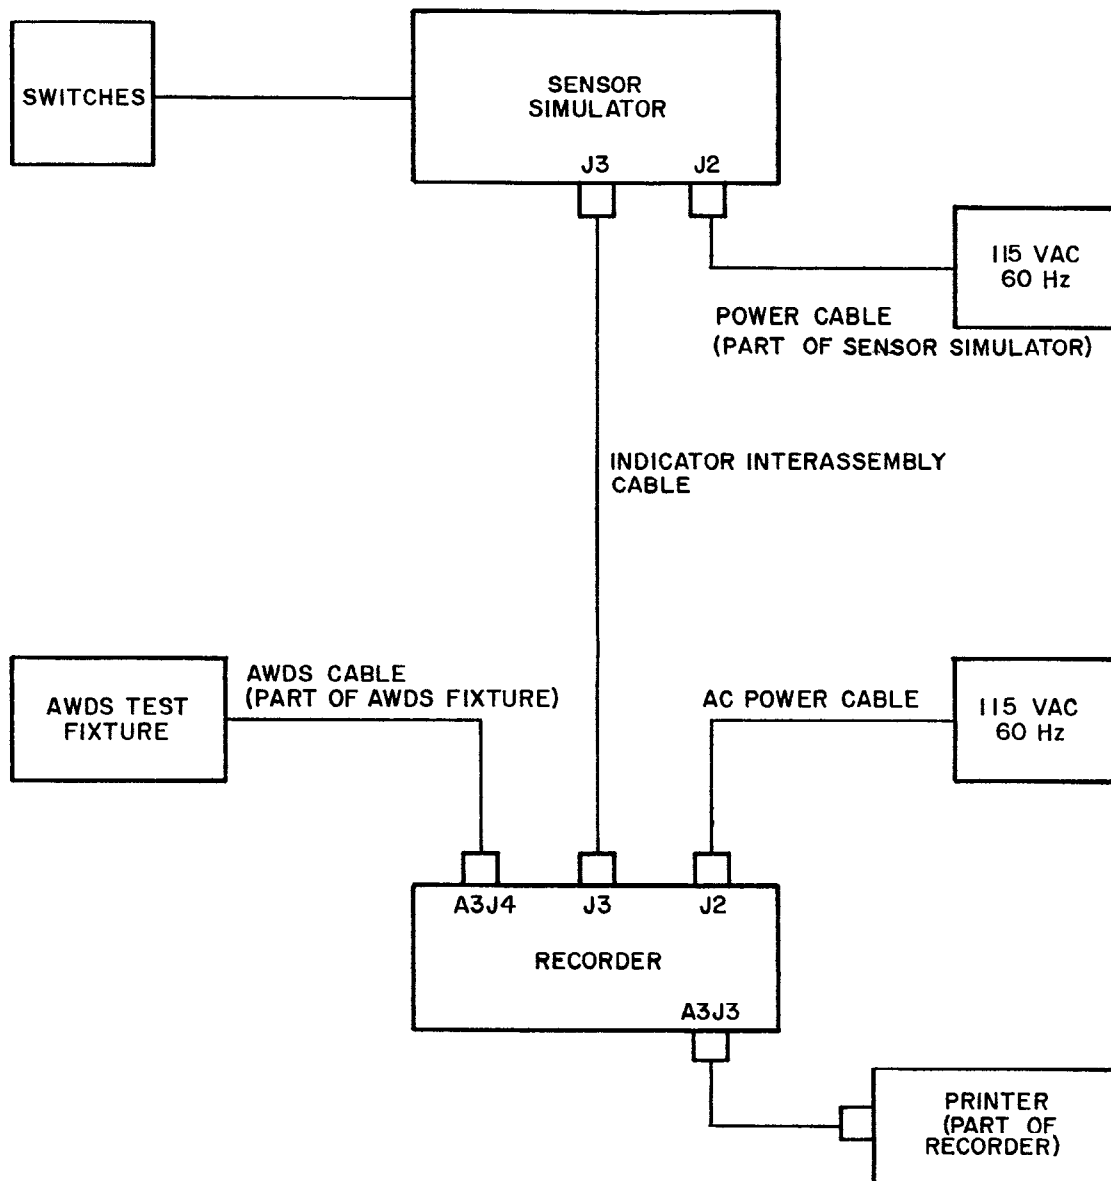

FIGURE 5-16. Test Setup for Recorder Test
- d. Configure the recorder to the test setup as shown in FIGURE 5-16. Note that recorder's printer is to be tested out of the printer chassis to ease testing.